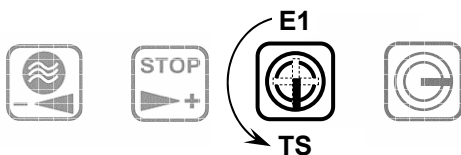

Fig. 4.7 C The key is in position TS.
1. Turn the key on the programming key switch from position E1 to position TS (cf. Fig. 4.7 C). All of the product keys which do not illuminate in green are disabled: The programming key switch blinks red. The following message is displayed: